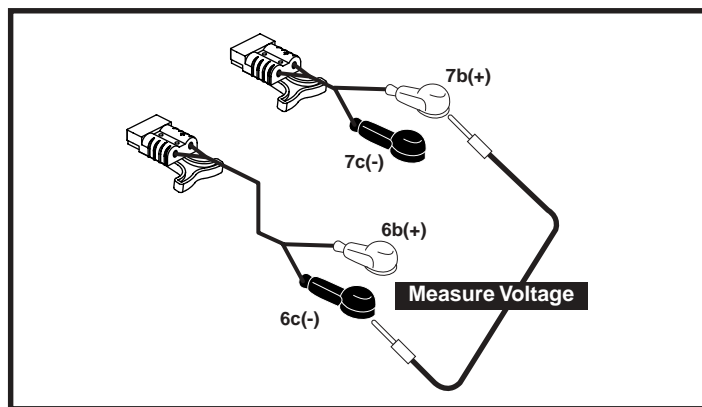
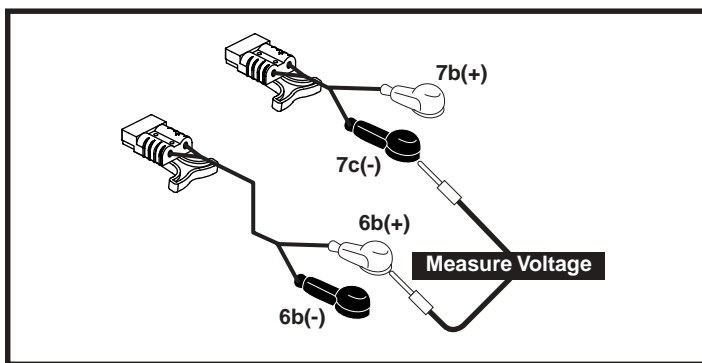

Figure 20. Connectors 6c and 7b
Figure 21. Connectors 6b and 7c
9. Measure voltage across connectors 6c and 7b. **See figure 20.** (If your multimeter indicates 0VDC, then measure voltage across connectors 6b and 7c. **See figure 21.**)